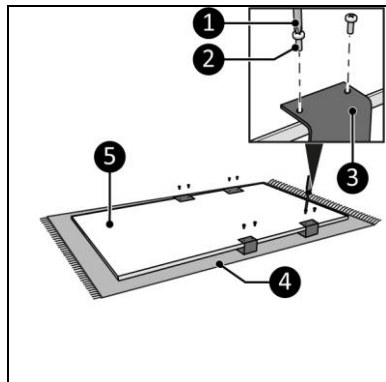

Figure 8
8. Lay the device down on a soft steady surface (Figure 8, pos. 4).
9. Place the two towel rails (Figure 8, pos. 3) on two of the three possible locations on the main body (Figure 8, pos. 5).
10. Screw and tighten the two towel rails (Figure 8, pos. 3) with eight small screws (Figure 8, pos. 2) using a Phillips screwdriver (Figure 8, pos. 1).